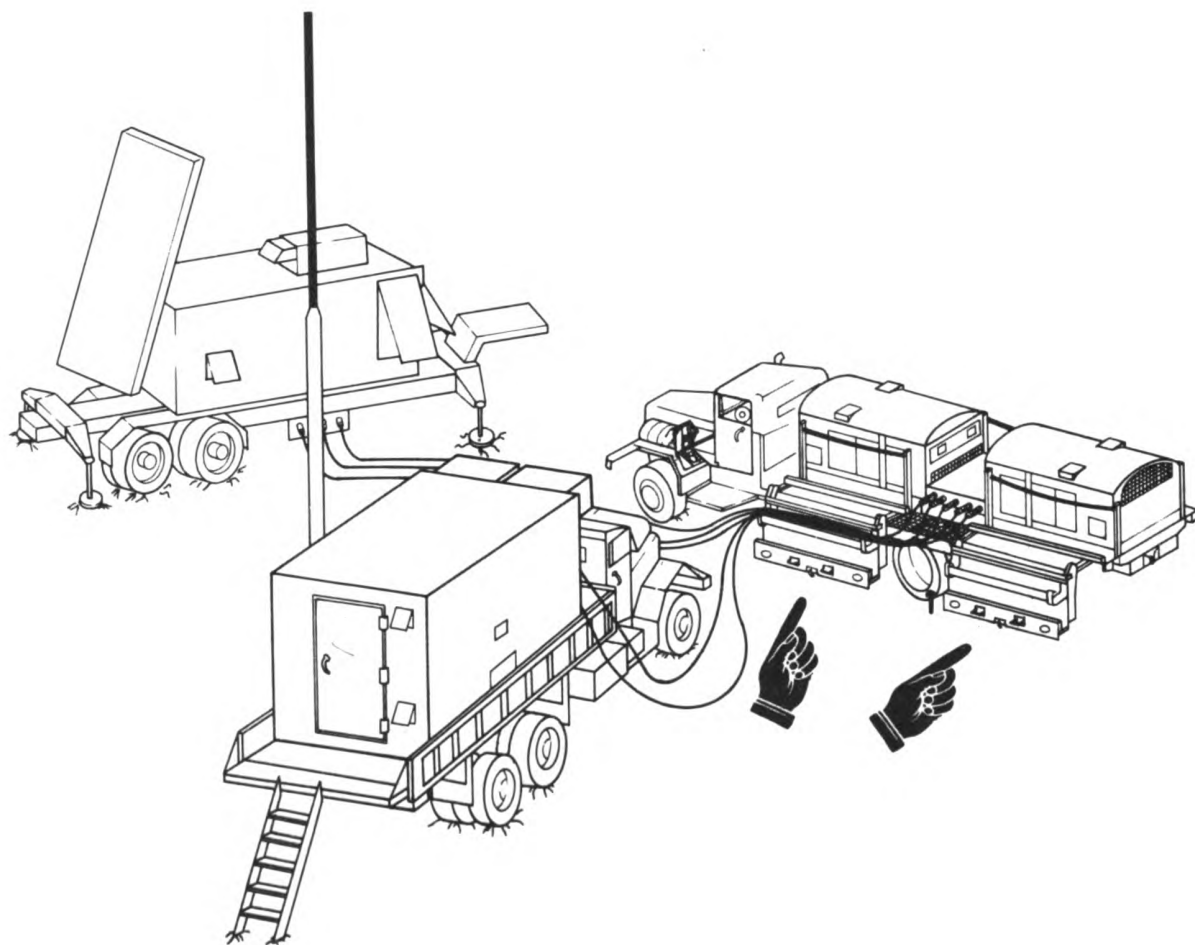

Figure 1-1. Electric Power Plant II Emplacement
a. Purpose of Electric Power Plant II (EPP II). The truck-mounted gas turbine generators are designed to provide alternating current to the engagement control station (ECS) and radar station (RS). A typical Electric Power Plant II emplacement is shown in figure 1-1, page 1-2.